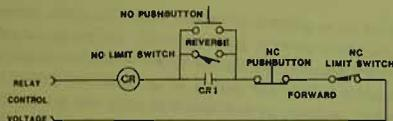

FIGURE 13
NOTE: The contact closure across terminals 1 and 2 of TB4 must be maintained in order to run in the reverse direction. Refer to Figure 13 if momentary switches are to be utilized.
10.8.1 continued "Shear Pin" LED is illuminated. NO MOTOR CONNECTED TO TB3.	10.8.1.3 (L) continued Replace F1 fuse. Refer to Figure 13. Replace the six (6) Power Module connection wires onto the Power Module. Reconnect AP4, AP5, AP6 and AP7 onto the motherboard as shown in Figure 16. Replace the driver module onto MC3 and MC4. Be sure to line up all 10 pins on both connectors. Replace the ribbon cable which originates at the transistor module onto AP1 on the driver module. Replace the control module. Replace all connections to TB1 and TB2. Refer to the Start Up procedure and perform all the tests in that procedure.